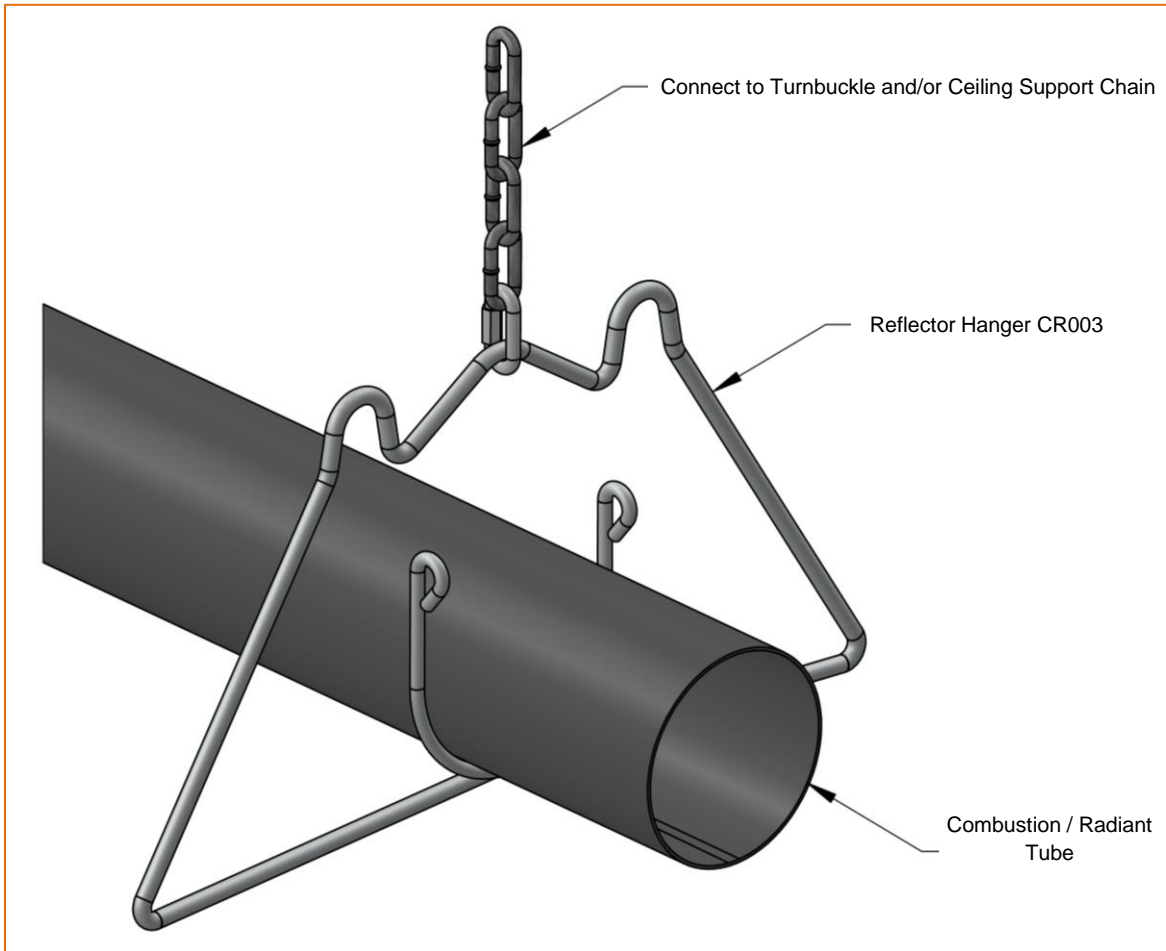

Figure 11: Tube and Reflector Hanger Detail
- Fasten the Reflector Hanger to the end of the hanging chain and place the Tube in the hanger. Ensure that Combustion Tubes have the Burner mounting hole positioned at 12 o'clock and facing downstream. (Refer to Figure 11).